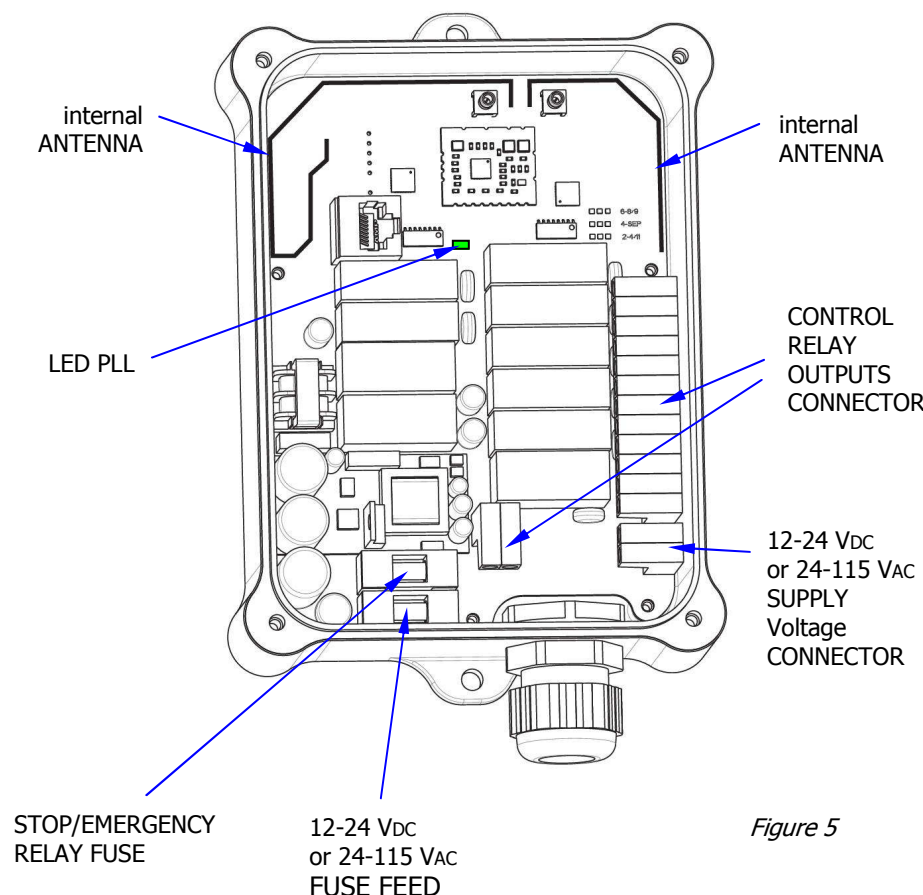

Figure 5
- In the receiver, check that the **green LED PLL** is blinking (see Fig. 5, 7, 9) indicating that waiting status of the radio signal.